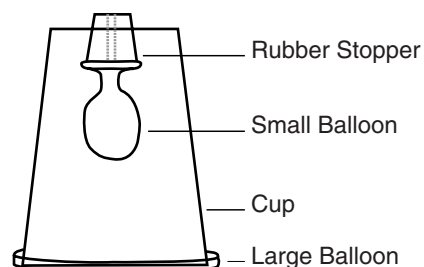

Figure 1. Completed Model
1. Place the small balloon over the large end of the one-hole stopper as shown in Figure 1.
4. Have a lab partner hold the cup containing the small balloon. Stretch the large balloon over the end of the cup. Your final model should look like Figure 1.